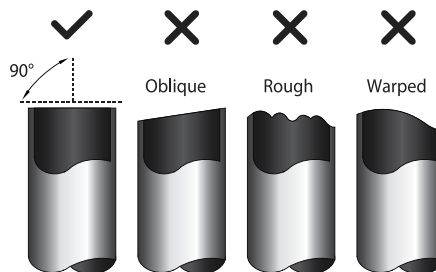

Fig. 5.1
- 3** Make sure that the pipe is cut at a perfect 90° angle. Refer to Fig. 5.1 for bad cut examples.